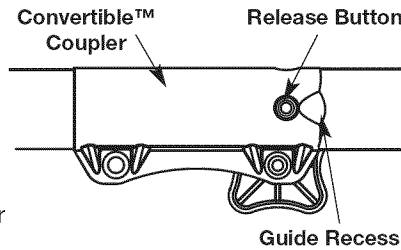

Fig. 5
2. Press and hold the release button (Fig. 5).
NOTE: Aligning the release button with the guide recess will help installation (Fig. 5).